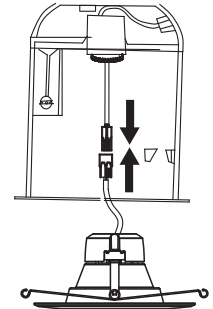

Fig 2
3. As shown in Fig 2, connect the quick disconnect between the retrofit kit and the medium base umbilical socket.